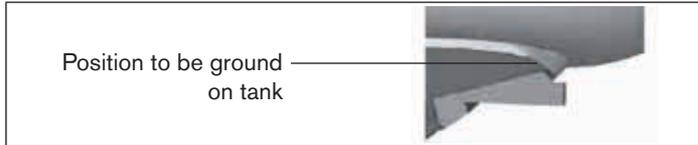

Fig. 6: Position to be ground on tank
- The hole diameter in the tank and the body flange must be the same size. The body flange has two welded edges to facilitate positioning and welding of the valve. The welded edges are approx. 3 mm wide. If the container wall is more than 3 mm thick, grind the container wall (see "Fig. 6").